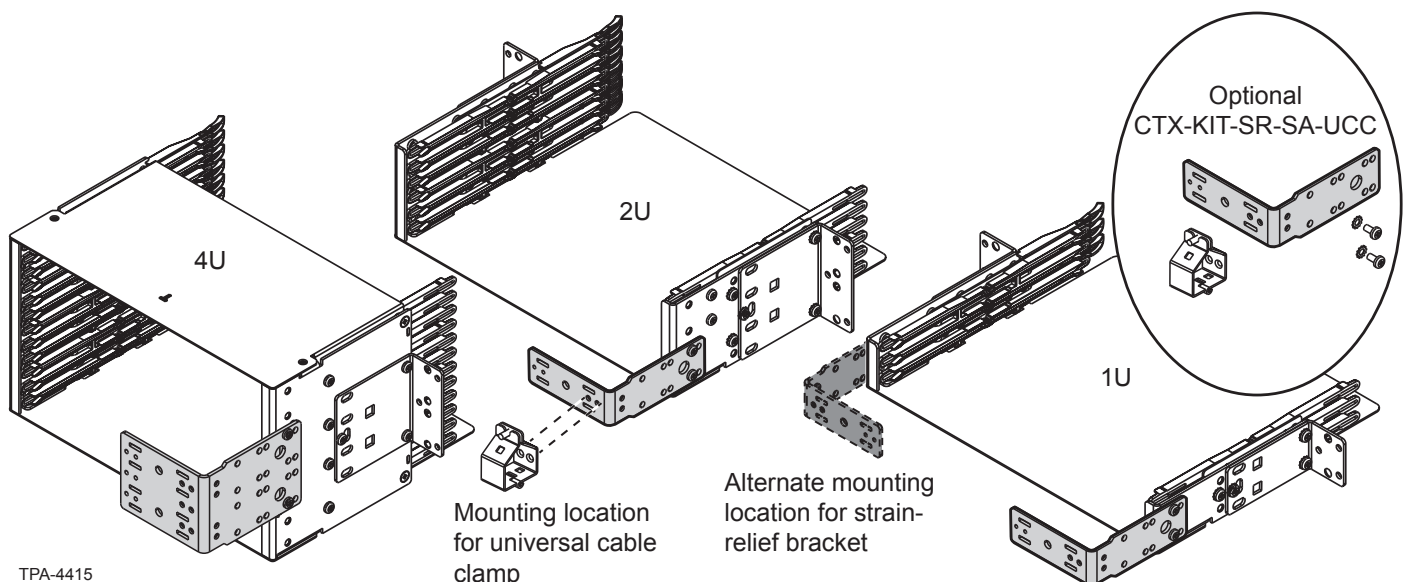

Figure 1
Step 2: Attach the strain-relief bracket(s) to the side of the housing (Figure 1).